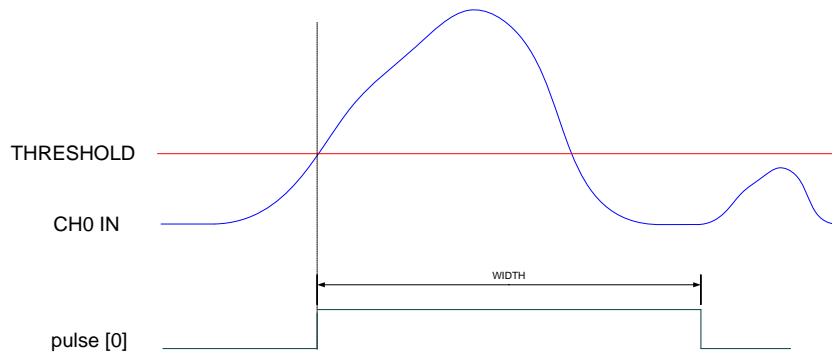

Fig. 10.13: Channel pulse signal
- a pulse of configurable width (see Fig. 10.13); the width parameter can be set at register address 0x1n70.